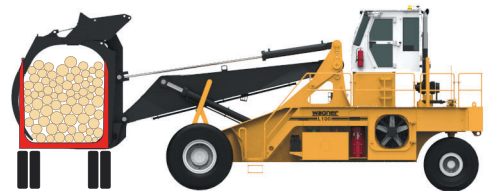

Figure 4-5-2 Securing the Load
4. Securely clamp holddown arms before the binder chains are removed (See Figure 4-5-2).